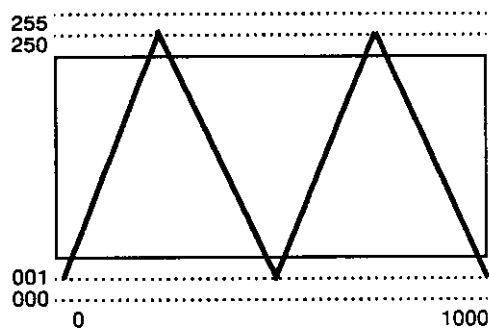

Fig. 10-3
This is a program to write data in the save memory A by the "Wi" command. The lines 30 to 200 set the waveform data to be transmitted to the instrument to the letter variable A\$. Set the waveform data according to application. "Wi" command is transmitted by the line 220, and the waveform data set to A\$ is written in the save memory A by the lines 270 to 310. The waveform data from the 0 address to the 999 address is written in the save memory A as shown in Fig. 10-3.
- (Set the triangle wave (001-250, 250-001) shown in Fig.10-3 by the 1000-word ASCII code.)